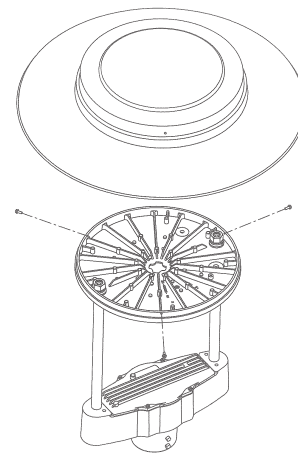

FIGURE 1
- Attach top to heat sink using screws from heat sink (see *Figure 1*).